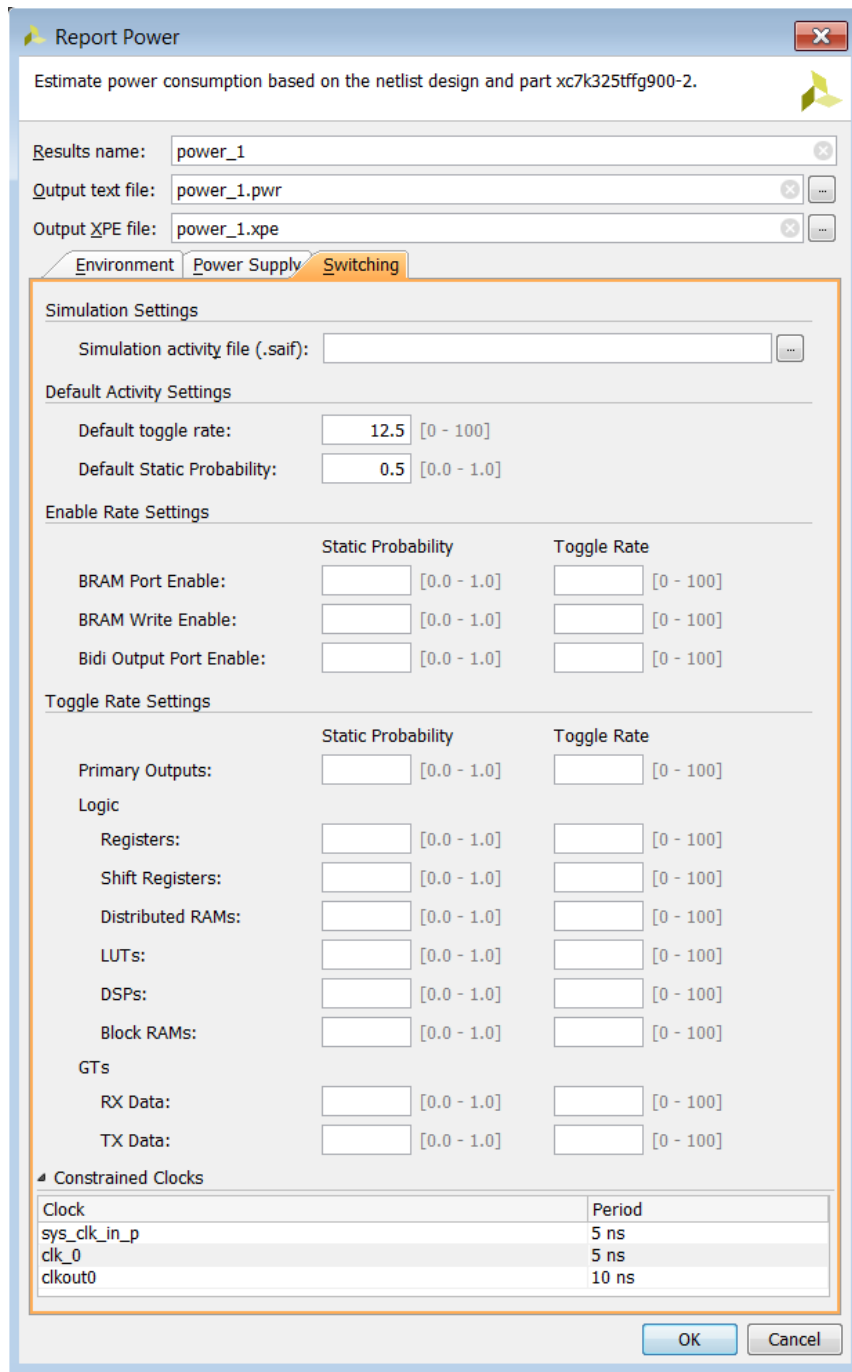

Figure 9: Report Power Dialog Box – Switching tab expanded to display Constrained Clocks
- In the **Switching** tab, expand Constrained **Clocks** and examine the constrained clocks in the design (Figure 9).